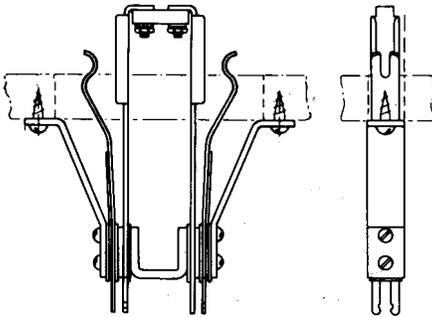

Fig. 1—401A Jack
2.01 401A: This multicontact jack (Fig. 1) consists essentially of a metal "U" shaped frame equipped with a spring combination and arranged to mount on the under side of a panel. The guide plates extend through an opening in the panel. The 401A jack is arranged to be used with the 252 or similar type plugs. This jack is to be used in patching cord test sets and also in place of the 288 jack.